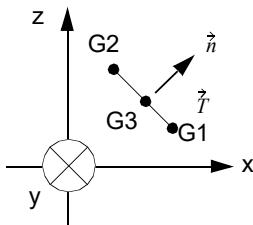

Figure 9-30 Normal Vector for CHBDYG Element of Type “REV”
3. TYPE specifies the kind of element surface; allowed types are: REV, REV1, AREA3, AREA4, AREA6, and AREA8. See Figure 9-30, Figure 9-31, and Figure 9-32.